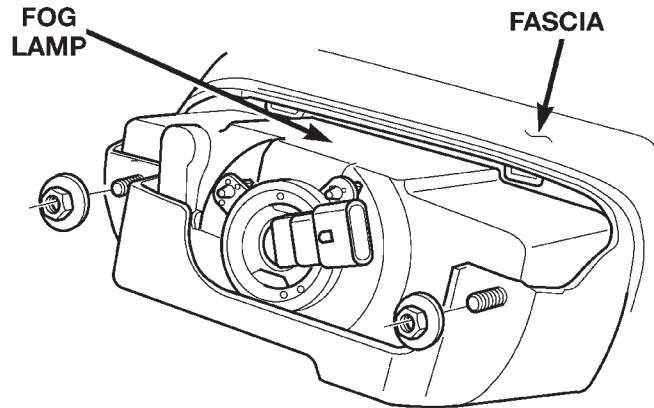

Fig. 6 Front Fog Lamp
(4) Remove the (2) fog lamp retaining nuts (Fig. 6).
(5) Remove the fog lamp from the fascia.